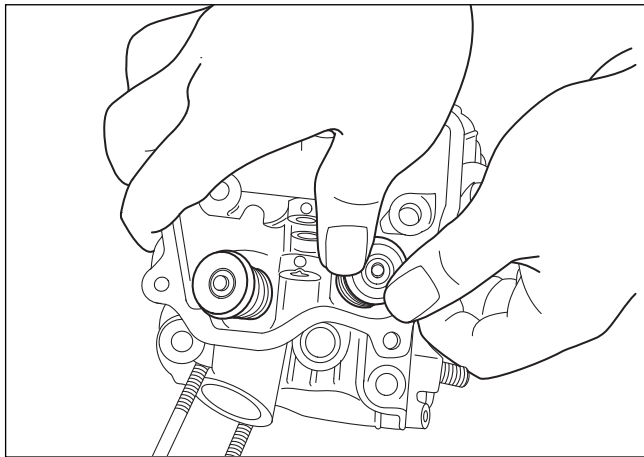

Fig.5-24
| 25 | Intake and exhaust valves | (1) Remove the collet valve from the spring retainer. (See Fig. 5-24) (2) Remove the intake valve and the exhaust valve. | |